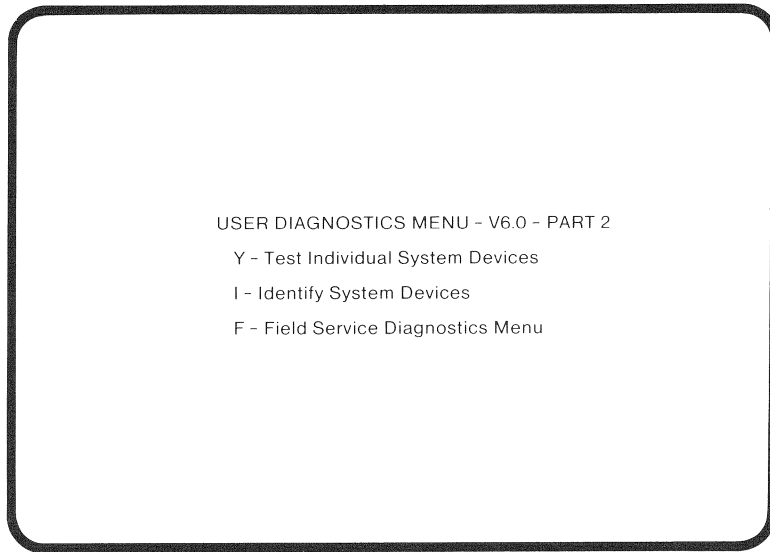

Figure 4-3 User Test Diagnostics Menu, Part 2
- The system displays the User Diagnostics Menu, part 2 (Figure 4-3).